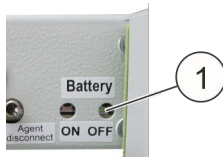

Fig. 4: Battery button
- Before transporting the complete system, disable the batteries: Press the "Battery OFF" (Fig. 4/1) battery button.